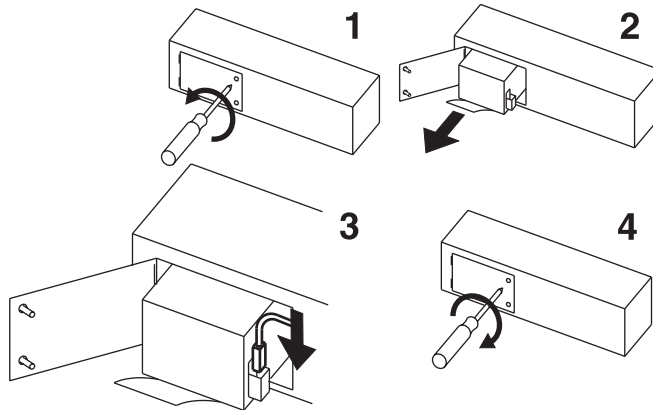

Figure 20. Connecting the battery to the UPS
- c. The unit as shipped from the factory does not have the battery connected. Connect the battery to the UPS as shown in Figure 20.